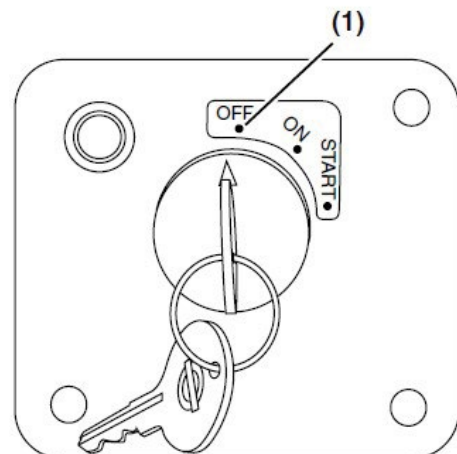

Figure 20
Turn the key to the OFF position (**Figure 20, (1)**) and remove it from the key switch.